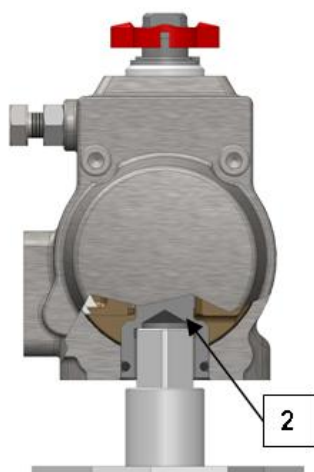
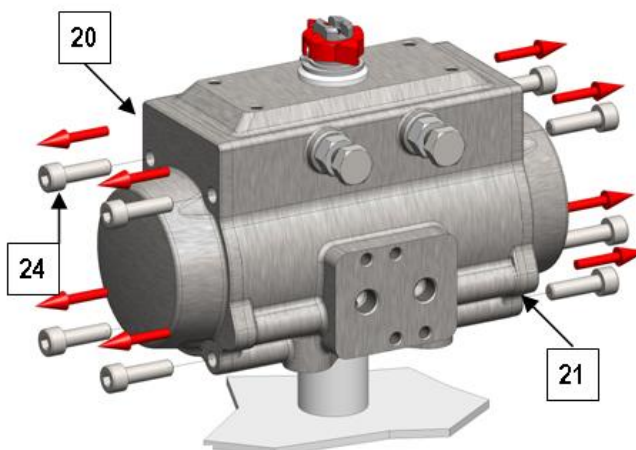

Fig.1
Fig.2
4. Place the actuator on a support with a square of the same size of the pinion (2) so as to easily execute the below listed operation (see Fig. 1):
5. Before disassembling the actuator **check** from the label on the body whether it is a double acting (DA) or spring return (SR) type;
6. For **DOUBLE ACTING ACTUATOR** : Unscrew in crossed sequence the screws (24) for fastening the end caps (20-21), see Fig. 2 ;
For **SPRING RETURN ACTUATOR** : Unscrew **GRADUALLY** in crossed sequence the screws (24) for fastening the end caps (20-21), s. fig. 2;